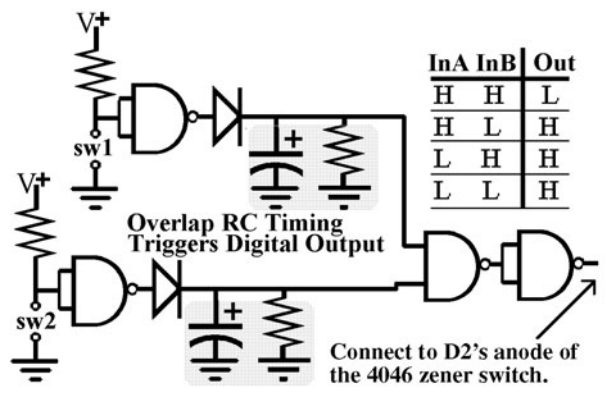

Figure L48-1
- **Two Input Digital:** A coin or other action at the SW1 in Figure L48-1 will turn the output of the first gate high for about 20 seconds. You would then have that time to activate the second NAND gate using the SW2.